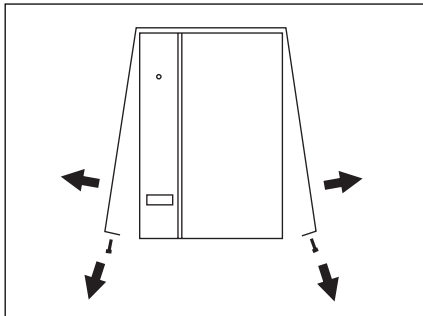

Fig 1
- stop Pulsar CT and de-energise it by unplugging the utility power connection lead ④ (see page 1),
- open Pulsar CT's cover (see fig. 1),